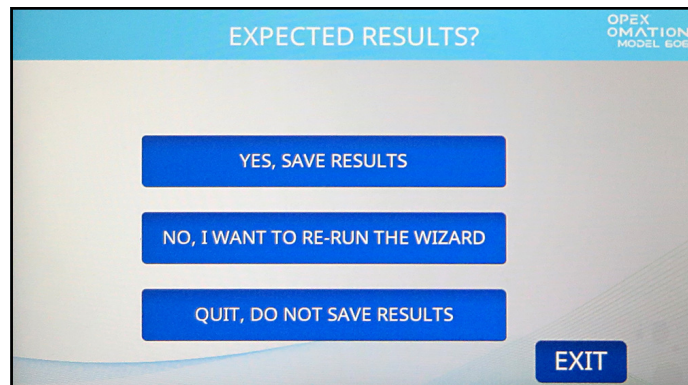

Figure 6-28: Save results
13. The last Sort Wizard prompt will save the results (Figure 6-28). Press **YES, SAVE RESULTS**.